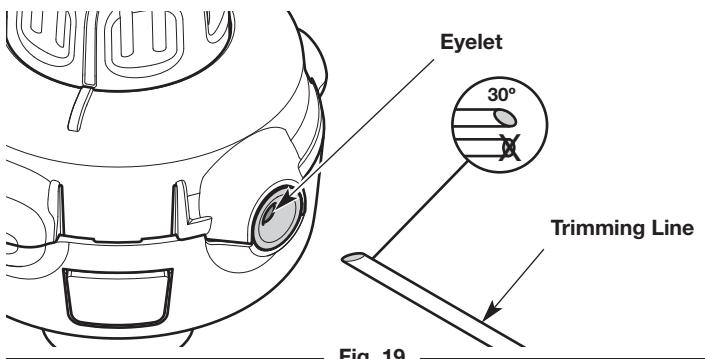

Fig. 19
2. Cut two 7-foot (2.1 m) lengths of new trimming line. Cut one end of each line at a 30 degree angle (Fig. 19).
4. Insert one of the lines into an eyelet on the cutting head (Fig. 19). Use the angled end and push the line in about 3 inches (7.5 cm). Repeat this process with the other line and remaining eyelet.